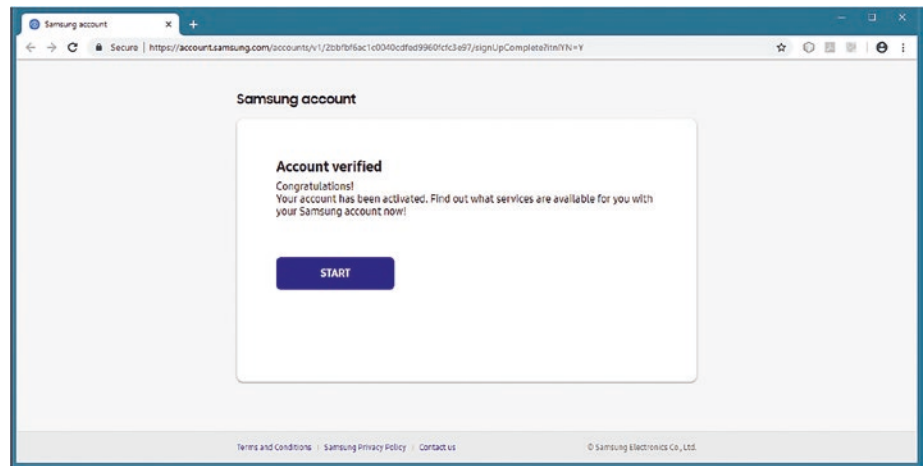
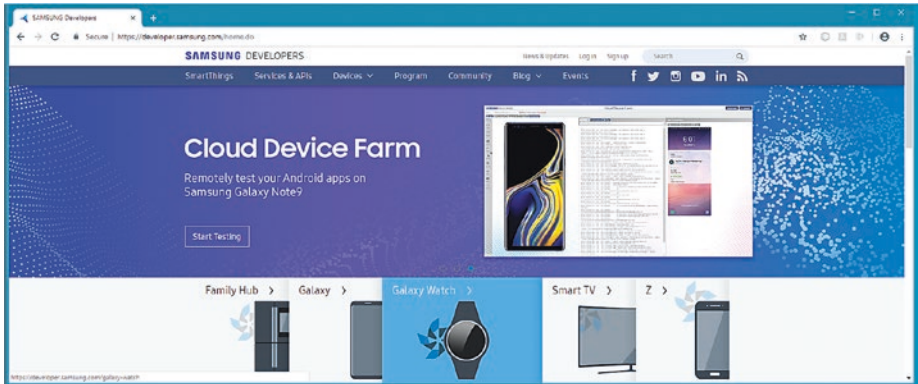
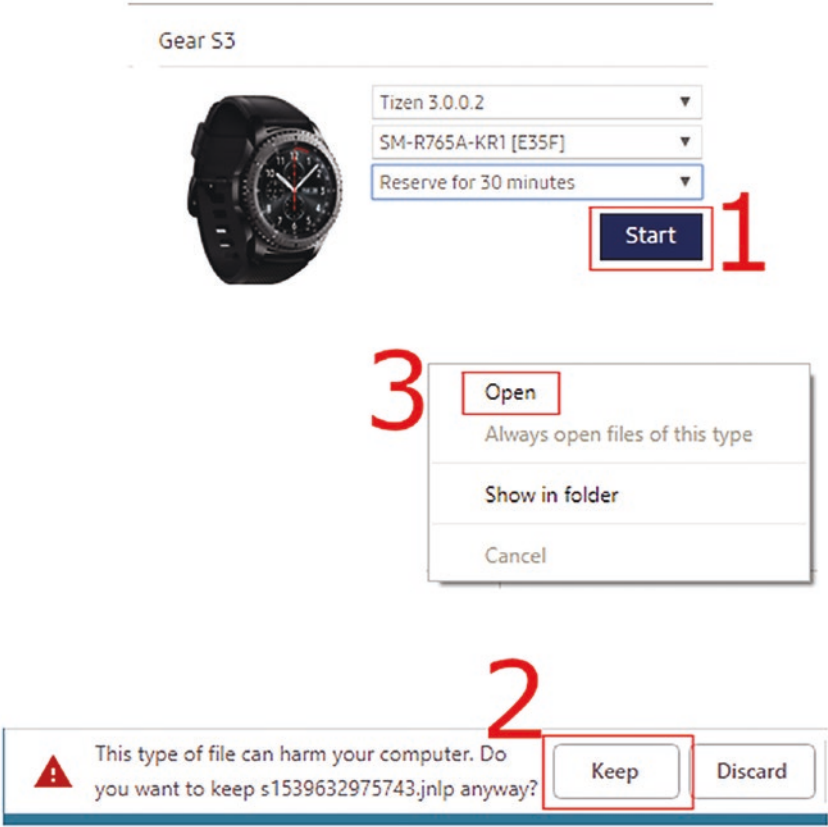
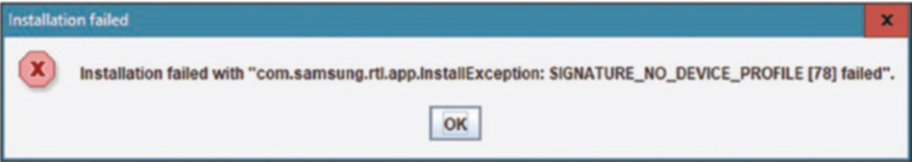

Figure 6-9. Fix the Always-On Second Hand layer using Minute In Watch rotation
Figure 6-10. To access Galaxy Watch on the Cloud Device Farm, click its icon
Figure 6-21. Start the Emulator (1), Keep the JNLP download (2), and Open it (3)
Figure 6-32. I'm getting errors when I run TPK, continuing to try and figure it out
After you verify the personal data in the form by clicking the link sent to your e-mail address, you will see the page shown in Figure 6-9.
Once you click the blue **START** button shown in Figure 6-9, you will be taken to the Cloud Device Farm, as shown in Figure 6-10, where you'll click the Galaxy Watch section to go to a Remote Testing Lab, for Galaxy Gear Sport, S3, Gear Fit 2, and Galaxy Watch hardware testing.
Now that we have a .TPK generated, let's try to get the online Remote Test Lab (Hybrid Testing) working. This is the most difficult testing solution to get working, because it starts at the GWD and also has a server-based component engineered at Samsung that has to be made to work via a JNLP app that comes from Samsung's server and runs on your desktop to create a simulation of a real smart watch. Let's revisit the Remote Test Lab, shown earlier in Figure 6-10, that we saw after we registered as developers on the Samsung website. It looks easy to utilize, but at this stage of its development, it is still a work in progress. Since I tested on my real Gear S3 Frontier smartwatch in the previous section, I chose the Gear S3 SM-R765A-KR1 (E35F) option and Tizen 3 in the Grea S3 section as well as the "Reserve for 30 minutes" option, as can be seen at the top of Figure 6-21. Click the dark blue **Start** button (1), and look at the bottom left of your browser window, where you'll see the **JNLP Web Start** file. Click the **Keep** button, and then right-click and **Open** the JNLP to launch the Java emulator application, which will call the Java 1.8 RunTime (which you need to have installed) and bring up the **Java Launch** dialog, before showing the **Remote Test Lab** dialog.
Alas, I am still getting an error, shown in Figure 6-32, which is preventing me from emulating the .TPK on the RTL JNLP application.
I again ran the emulator with the Tizen 3 TPK (see Figures 6-21 through 6-31) and got another error message like the one shown in Figure 6-32. So I went back to Google and noticed there was a Port 2600 enablement issue I had not tried, so now I'm going to cover how to do this as well. I am not going to stop, until I have the emulator working!
As you can see, becoming that professional watch face designer and developer is not quite as easy as it looks, given that it can become fairly difficult to test (and install, in a store), due to watch face developer certifications, firewalls, using Java 8 and JNLP, allowing JavaScript in a browser, different browser versions, different servers, hosted in different countries (KR is Korea, PL is Poland, US is USA, see Figure 6-21, top, next to the red number one), IP settings, Enabling Developer Debugger Options on smartwatches and smartphones, and many similar “technical landmines”